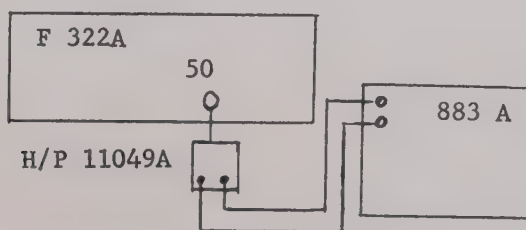

FIGURE 5-7
- a. Connect equipment as illustrated in figure 5-7.